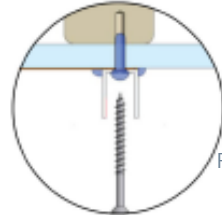

FIG.6
- When plumb, drill 2 holes (3.5mm) in wall channel, lining up with framing locations. (FIG 6). The top hole should be within 100mm of top of channel and the second hole within 1000mm of top of channel. No screws will be required lower than 1200mm up from bottom of base.